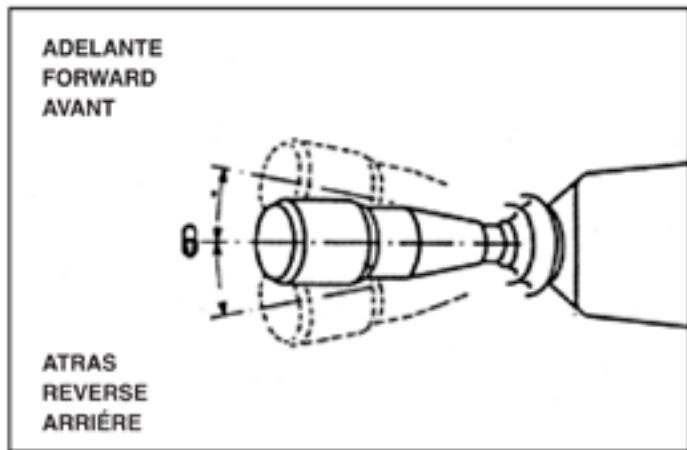

Fig. 5
- 2) Put the inverter lever 13, Fig. 1, into the desired gear, according to the indications of the Fig. 5.